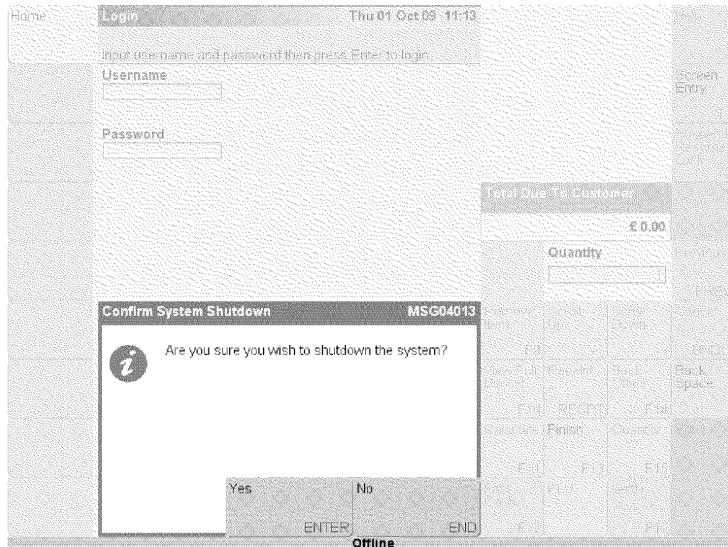

Figure 6
6) Press “Shutdown or keyboard 84. The system will ask if you are sure you wish to shut down. Press “Yes” and the system will then shut down. (See figure 6 below)